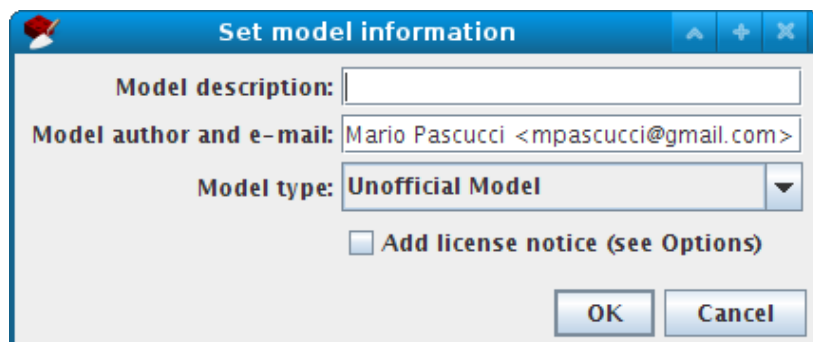

Fig. 7: Set model information
-  Set model information. Opens a dialog (Fig. 7) to enter model description and author. Author field is filled with default defined in Program Options (see 5.3.14). License notice is defined in same dialog, and here you choose if include a license notice or not in your model.